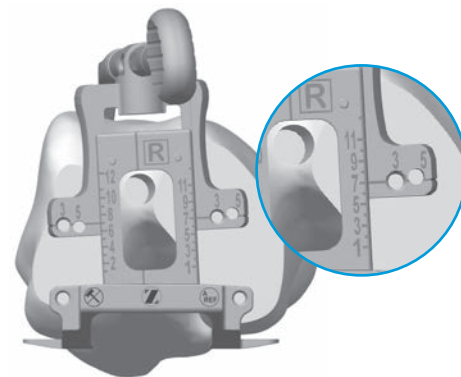
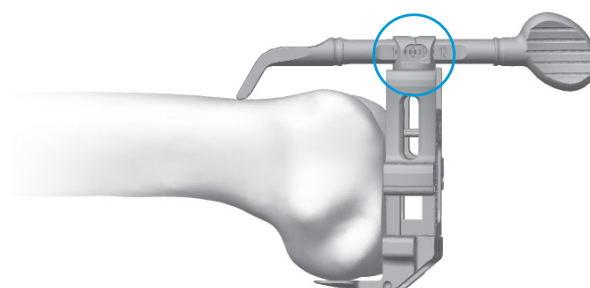
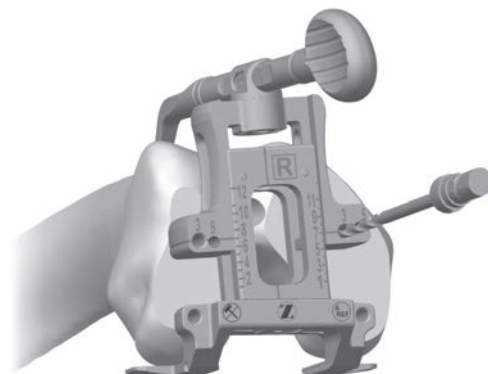

Fig. 119
Fig. 120
Fig. 121
- After the Anterior Referencing Sizer boom is appropriately positioned, read the femoral size from the engraved lines on the Anterior Referencing Sizer tower and select the closest size (**Fig. 119**). There are six even-sizes labeled on the left side of the tower and six odd-sizes labeled on the right side of the tower, with lines indicating the in-between sizes. The same size markings are present on the anterior surface of the Anterior Referencing Sizer boom and approximate the proximal position of the anterior flange of the femoral component when telescoped to the same size that has been determined by the vertical Anterior Referencing Sizer tower (**Fig 120**). The 3° or 5° holes in the midline of the A/P portion of the Anterior Referencing Sizer are used to drill 3.2mm holes for pegs on the Anterior Referencing 4-in-1 Femoral Cut Guide (**Fig 121**). A 3.2mm pin may be placed in the first drilled hole to maintain an “index” position prior to drilling the second hole. Remove the screws, then remove the Anterior Referencing Sizer.